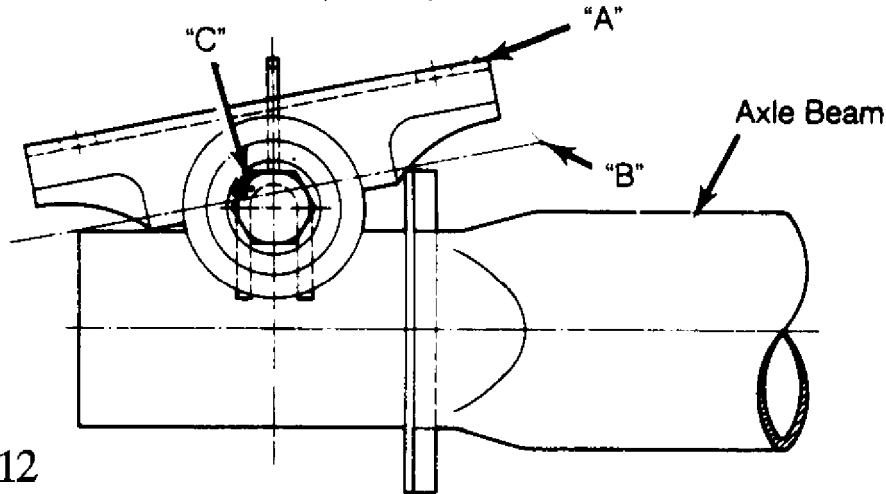

Fig. 2: Correct Alignment of Axle Beam Mounting Pad
- 1) If axle beam mounting has been removed, adjust mounting pad. See Fig. 2. If pad is not correctly aligned, torsional preload of mounting bushings will be incorrect.
- 2) Using Mounting Bracket Aligner (VW 261 or 3021), align mount. See Fig. 2. Tighten pivot bolt nut to specification with vehicle on ground.